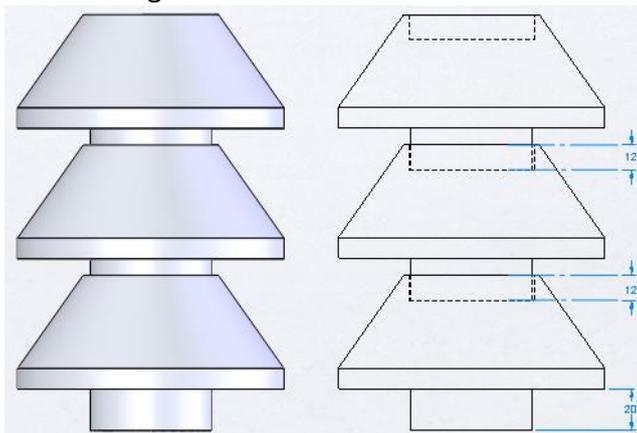
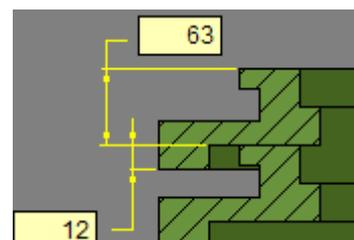

Figure 16.15: Example 3; stacked finished products
Figure 16.16: Stacking length entry
- For the finished components, in this example, we have to enter the way in which the workpieces are stacked. As shown in fig. 16.15, the finished workpieces fit together over a length of 12 mm. We can enter this stacking length into the TURN ASSIST software as shown in fig. 16.16.
- The stop length against the pillars does not play a role for the rough products. Here we select 8 mm. For the finished products must select a value greater than 20 mm. (see fig. 16.15). In this example, we select 25 mm.